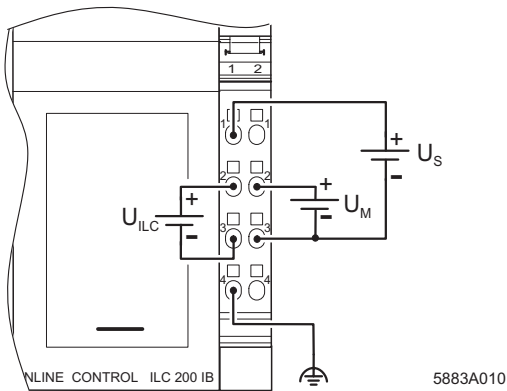

Figure 6 Connection example
1. You can provide the segment voltage separately at the terminal points 1.1 and 2.3 (GND) (see Figure 6).